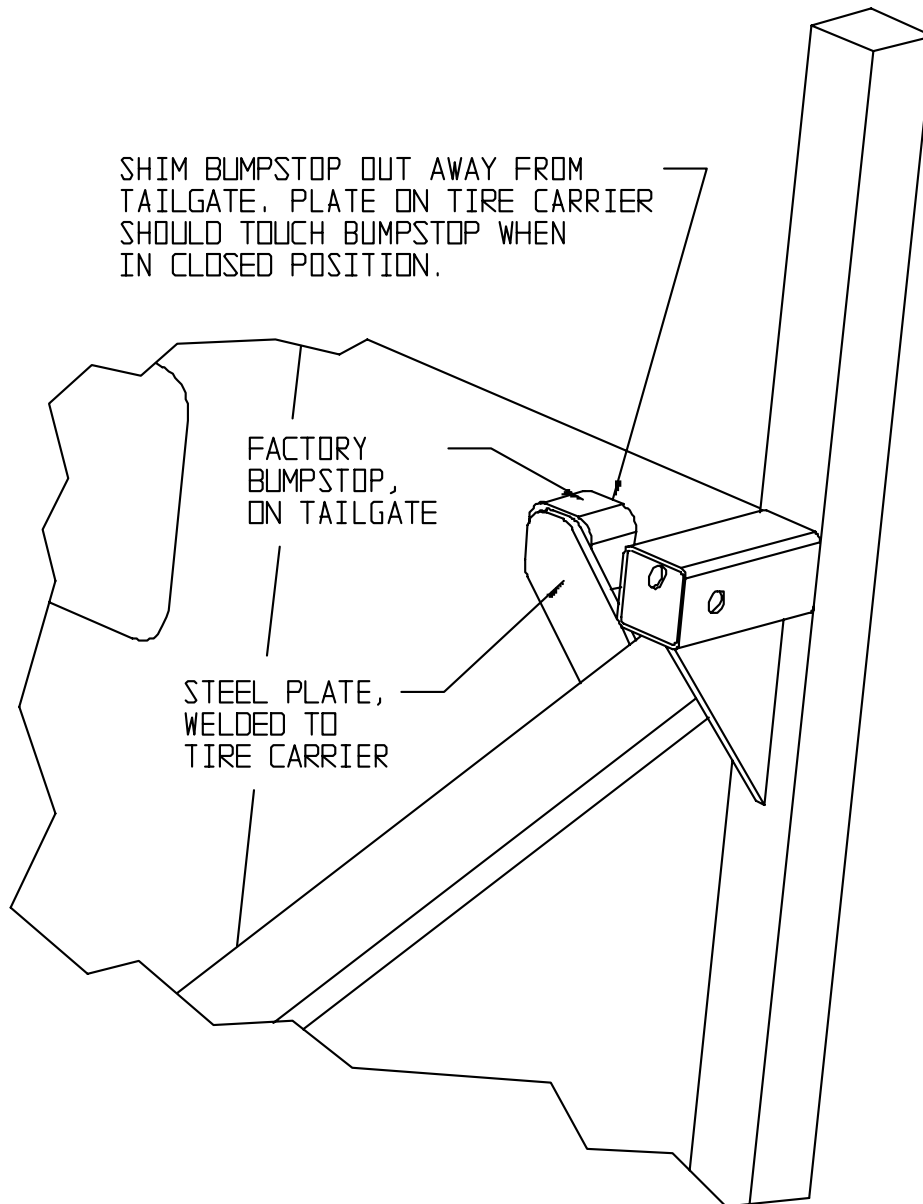

Figure 8, Factory Tailgate Bumpstop, TJ and YJ models.
19. There is a flat plate welded to the tire carrier framework. A rubber bumper should be mounted to either the flat plate or the tailgate to prevent the tire carrier from rocking back and forth on rough terrain on CJ models, **see step 24 for CJ installation**. The TJ and YJ have these rubber bumpers mounted on the tailgate already. It may be necessary to shim the driver's side top bumper out away from the tailgate to have slight pressure on the flat plate when the assembly is in the closed position. **See Figure 8.**